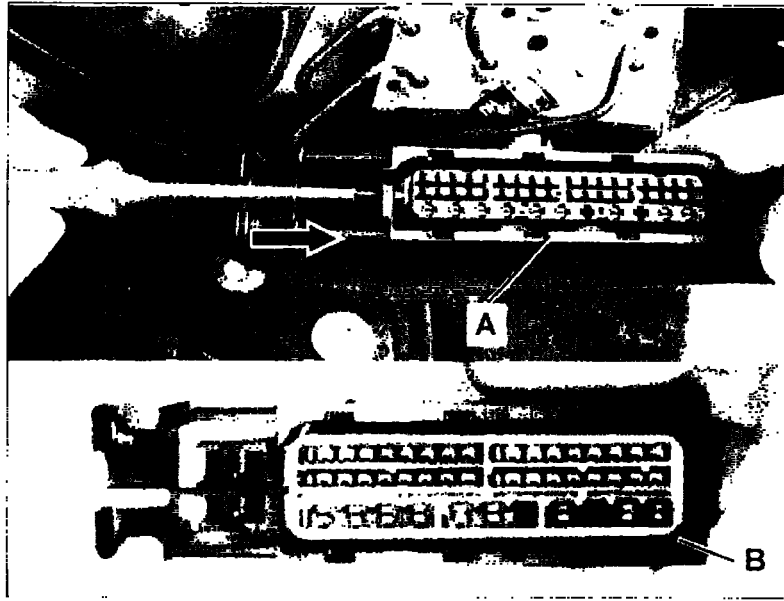

Figure 11
17. Close the (gray) secondary lock of the SBC connector housing (A, B, Figure 11):
- **Connector Type A** (Figure 11):
Slide the gray secondary lock in the direction indicated by the arrow (Figure 11), using a small screw driver until it locks into place.
- **Connector Type B** (Figure 11):